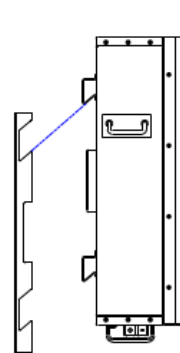
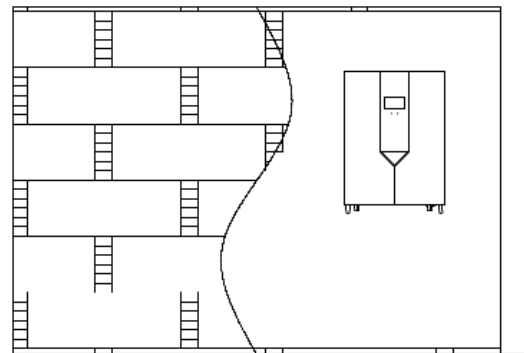

Figure 8
Figure 9
(4).Move in the direction as shown in figure 8, and fit well, as shown in figure 9.